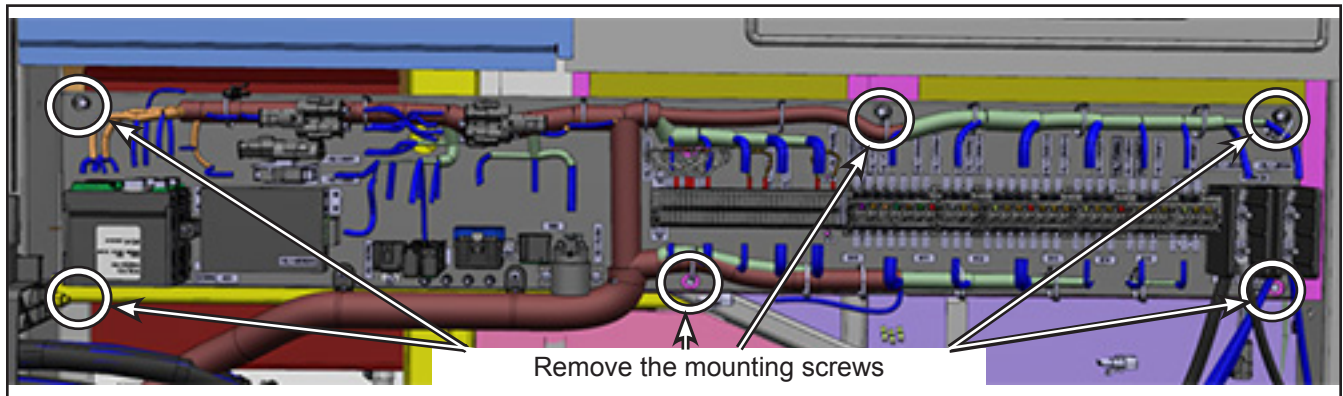

Figure 3 - Upper ITS Panel
- 1.4. Remove the mounting screws of the upper ITS panel and carefully place the panel at the bottom of the ITS box. Retain the mounting screws. See Figure 3.